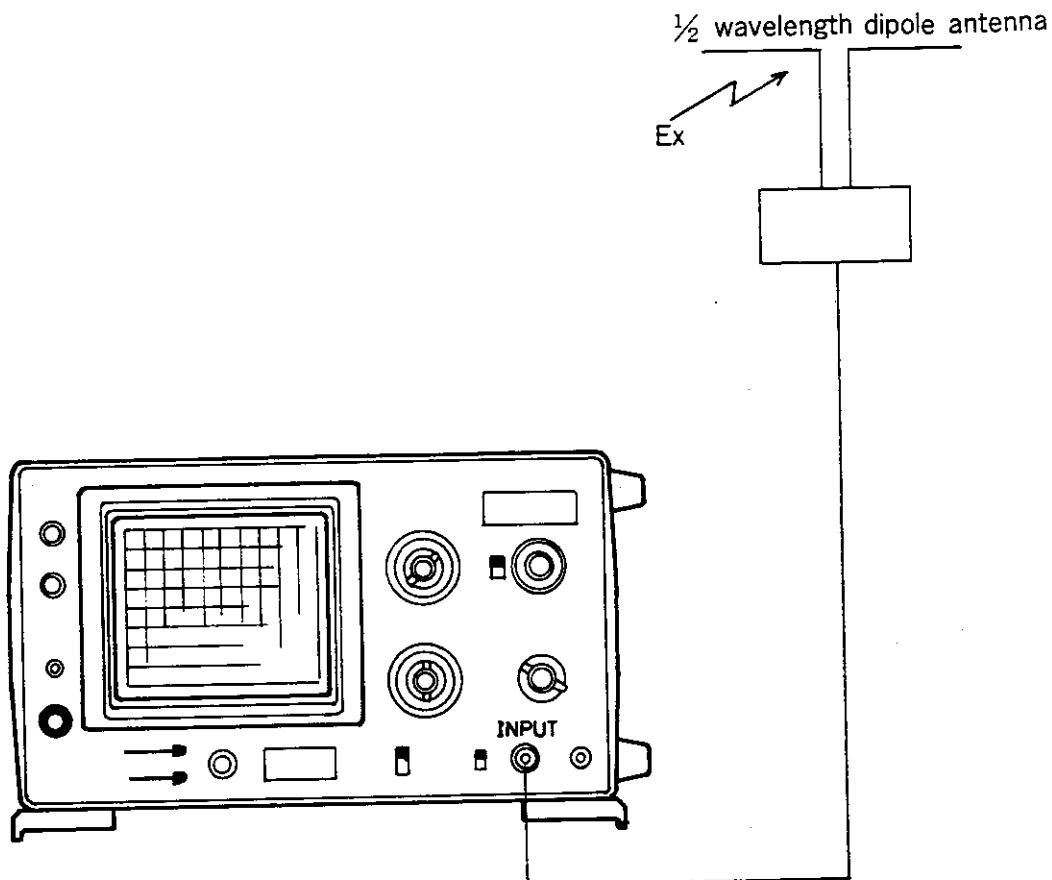

Fig. 2-22 Field Strength Measurement Setup
- (1) Calibrate the level [See Para 2-6-1] and frequency [See Para 2-6-2].
- (2) Connect the antenna to **INPUT** and set **REFERENCE LEVEL** to **ANTENNA-A** or **B** depending on the antenna used. [Fig. 2-22]
- (3) Select **DISPERSION/DIV.** to see the spectrum easiest.
- (4) Center the signal to be measured on the CRT display by **TUNING**.